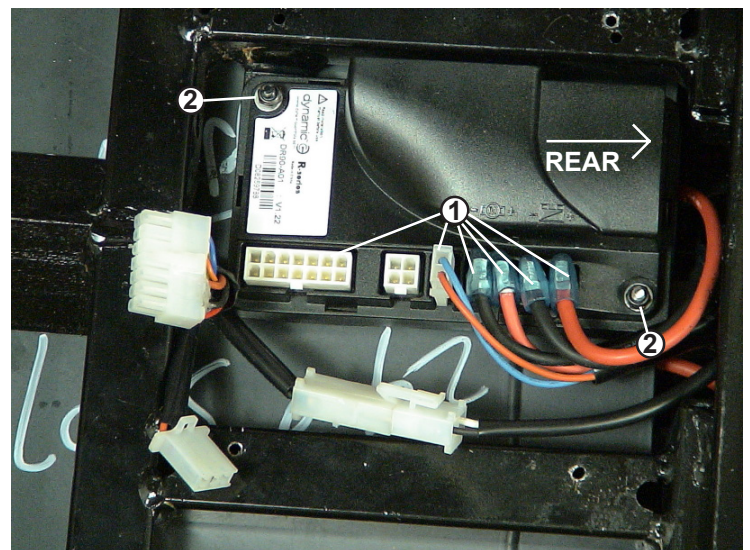

Figure 28. Controller
9. Remove the four (4) screws that fasten the controller cover to the frame.
10. Unplug the wires from the controller. (See #1 on figure 28.)
11. Remove the two (2) screws that attach the controller to the frame. (See #2 on figure 28.)